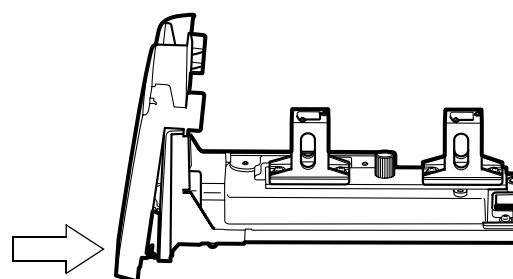

Fig. 4.17 Snapping the sample compartment front cover
- 4** Snap the sample compartment front cover into the sample compartment unit. Push the cover in the arrow direction in Fig. 4.17 until it snaps.